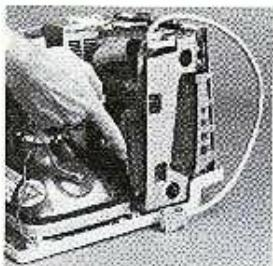

Figure 3-14
- a. Plug the host connector card into the main logic board as shown on Figure 3-14. Place the card between the Macintosh frame and the support bracket with the card's chips *acing the inside of the Macintosh*.